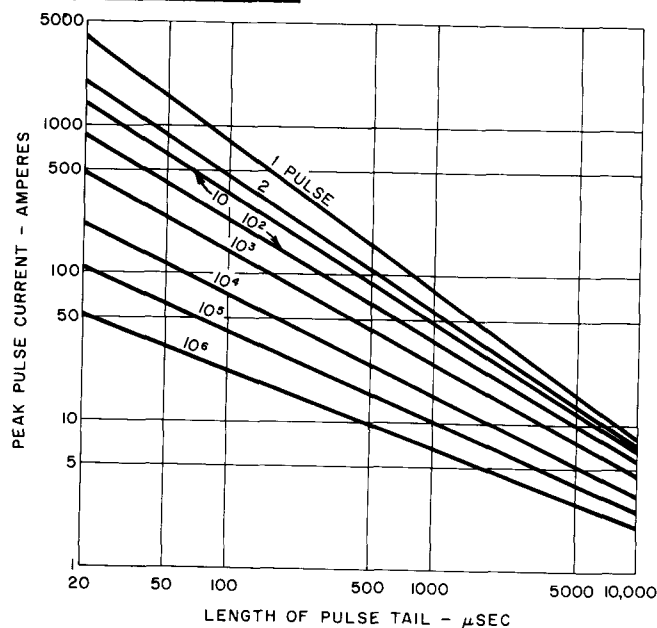

FIGURE 13
4. See Figure 13. Peak currents apply for full rated bias.